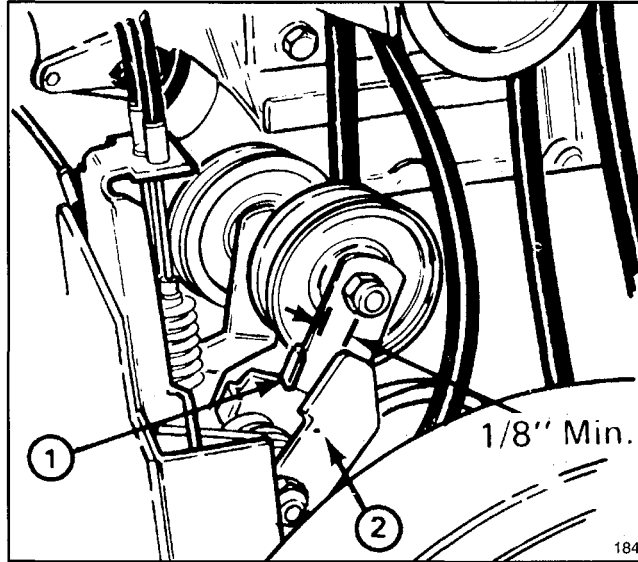

Figure 31
8. Check impeller brake arm clearance by releasing the auger/impeller lever. With the lever released, there should be more than 1/8" clearance between the tab on impeller idler arm and brake arm (Fig. 31). **If there is less than 1/8" clearance, belt must be replaced.**